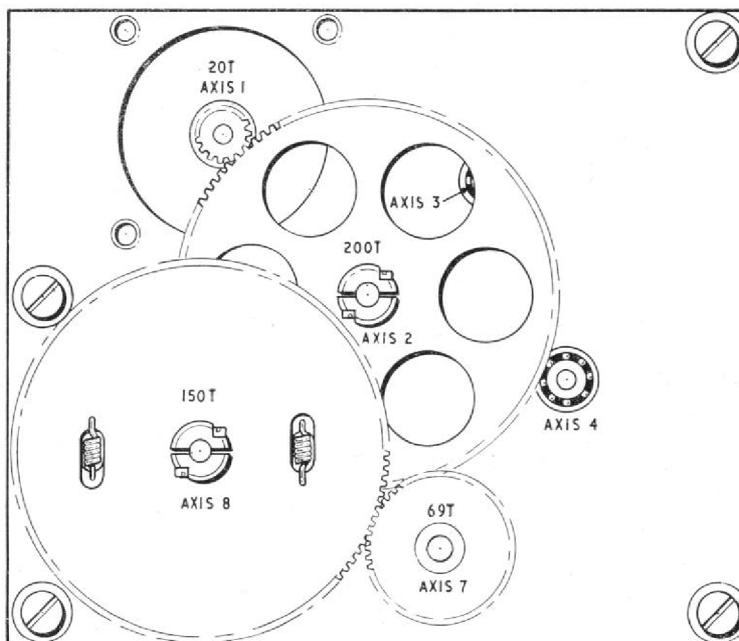
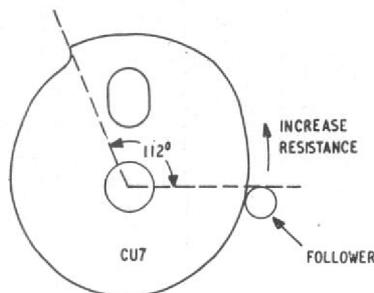
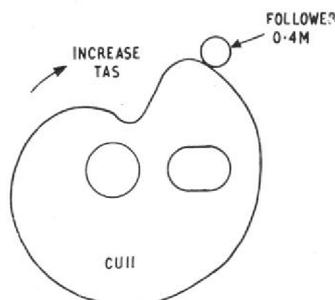

Fig. 12. Temperature gearbox (G6)—underside
Fig. 13. Adjustment of 1/2 log Ti cam CU7 from underside
Fig. 15. Adjustment of T.A.S. cam CU11 from underside
106. Check that when the 200T gear of axis 2 (fig. 12) is displaced one turn against the servo action and released it makes only one overshoot in each direction before coming to rest. RV1 (Chap. 7, fig. 15) should be adjusted if necessary to achieve this.
107. Connect the valve voltmeter set to the 10V range across capacitor C1 (Chap. 7, fig. 15) ensuring that the earth terminal of the meter is connected to the end of the capacitor nearer the motor tachogenerator. The voltage should not exceed 5V.
112. Set S6 to 0.4 and check that the follower of CU7 comes to rest in a position approximating to that shown in fig. 13. If it does not, release the three 6 B.A. screws clamping RV3 (Chap 7, fig. 15) and turn the potentiometer until cam CU7 and follower are positioned correctly. Reclamp the potentiometer.
114. Connect up subsidiary test equipment as shown in fig. 1 with the wander lead connected to pin 3 of RV4. Set S6 test set, Type 9B to 0.4, the dividing box to 9840 and switch the dividing box to 20V (X). The valve voltmeter should register a null; RV2 (Chap. 7, fig. 15) should be adjusted if necessary to obtain this null.
127. Set test set, Type 9B T4 to 5060, S5 to OFF and S6 to 0.4; check that the follower of CU11 is approximately in the position shown in fig. 15. If necessary release the three 6 B.A. screws clamping RV4 (Chap. 7, fig. 17) and turn the potentiometer until the follower is in the correct position. Reclamp the potentiometer.